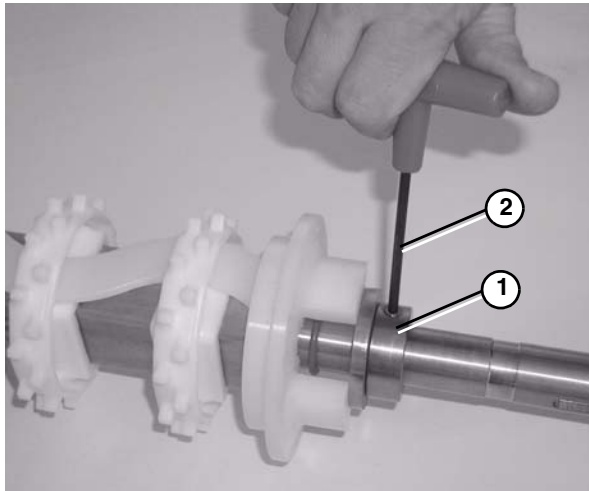

Figure 80
- Slide the retaining ring (**Figure 80, item 1**) onto the drive spindle. Leave a slight gap between ring and washer to allow flanged puck to spin freely.
- Tighten the retainer ring fastener using a hex wrench (**Figure 80, item 2**).